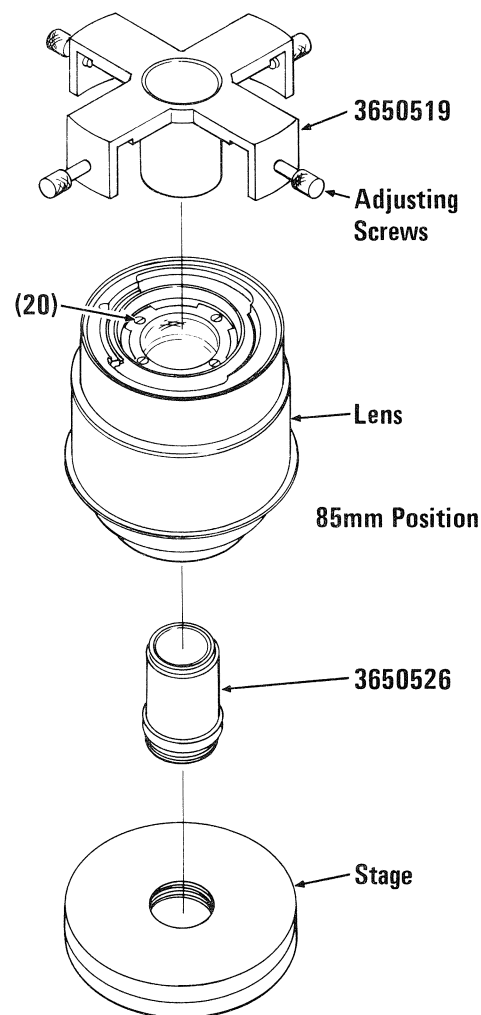

FIG. 6-13
- c) Assemble Tool No. 3650526 to the microscope stage, screwing it to the bottom of the threads and against the shoulder of the tool. Fig. 6-13.
- f) Install, but do not tighten, four screws (36) which retain the lens group in the slide housing. Fig. 6-13.
- h) Place Tool No. 3650519 down in the lens so that it fits around the ring of the second lens group, and the pads on the adjusting screws just touch the sides of the inner focusing ring. Adjust the position of the tool on the lens so that a long screwdriver will reach into the retaining screws (36). Fig. 6-13.